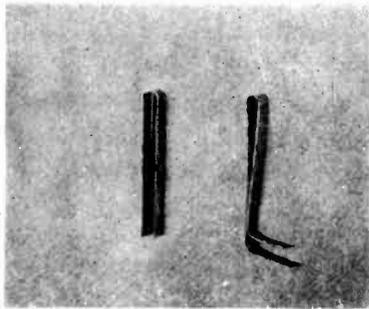

Fig. 3—Spacer tools
If either end of the armature strikes the pole piece a very disagreeable rattle will result. To correct a misalignment of the armature a pair of spacer tools, shown in Figure 3, and a screwdriver will be necessary. These spacer tools should be made of .010 phosphor bronze stock about $\frac{1}{8}$ inch wide. The distance between the open ends of the tool should be .091 inches. See Figure 3a.
5. Insert the spacer tools (Figure 3) in position at the top and bottom of the armature and tighten down the armature screws as described for adjusting the armature in Part I of these instructions.